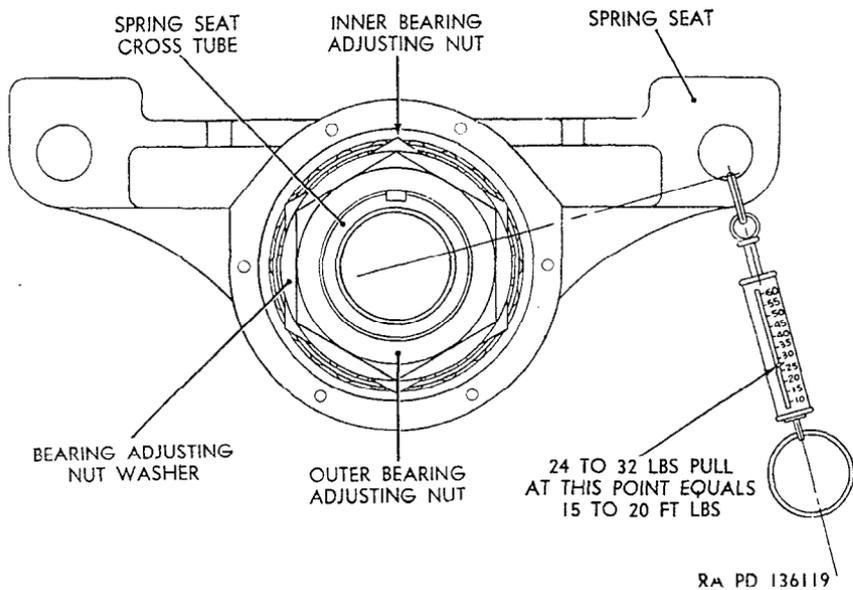

Figure 271. Spring seat bearing adjustment.
- (5) Place two jacks under spring, one on each side of spring seat, and raise spring clear of seat sufficiently to permit some rotation of spring seat around end of cross tube (fig. 271).
- (6) Hook end of a tester scale in clamp bolt hole (fig. 271) and pull downward on scale, noting pull required to rotate spring seat on cross tube. When bearings are correctly adjusted, pull on scale required to rotate spring seat is 24 to 32 pounds, which is equal to 15 to 20 foot-pounds preload on bearings. If spring-seat bearing adjustment is required, proceed as in (7) through (11) below. Otherwise, proceed as in (12) through (17) below.
- (8) Remove outer bearing adjusting nut (fig. 271) and bearing adjusting nut washer from cross tube.
- (9) Turn inner bearing adjusting nut (fig. 271) until a pull of 24 to 32 pounds on scale is required to rotate the spring seat.
- (10) Install bearing adjusting nut washer and outer bearing-adjusting nut on cross tube, and tighten nut. Check bearing adjustment ((6) above).
- (3) Remove outer bearing adjusting nut (fig. 271), bearing adjusting nut washer, and inner bearing adjusting nut from cross tube.
- (4) Pull spring seat with outer tapered roller bearing cone from cross tube, and remove cone from spring seat.
- (1) With inner tapered roller bearing cone in position on cross tube (fig. 271), install spring seat assembly on cross tube so that cone enters bearing cup in inner bore of seat.
- (2) Install outer tapered roller bearing cone on cross tube, inserting cone in bearing cup in outer bore of seat.
- (3) Install inner bearing adjusting nut on end of cross tube, and adjust bearings (*b*(6) above).